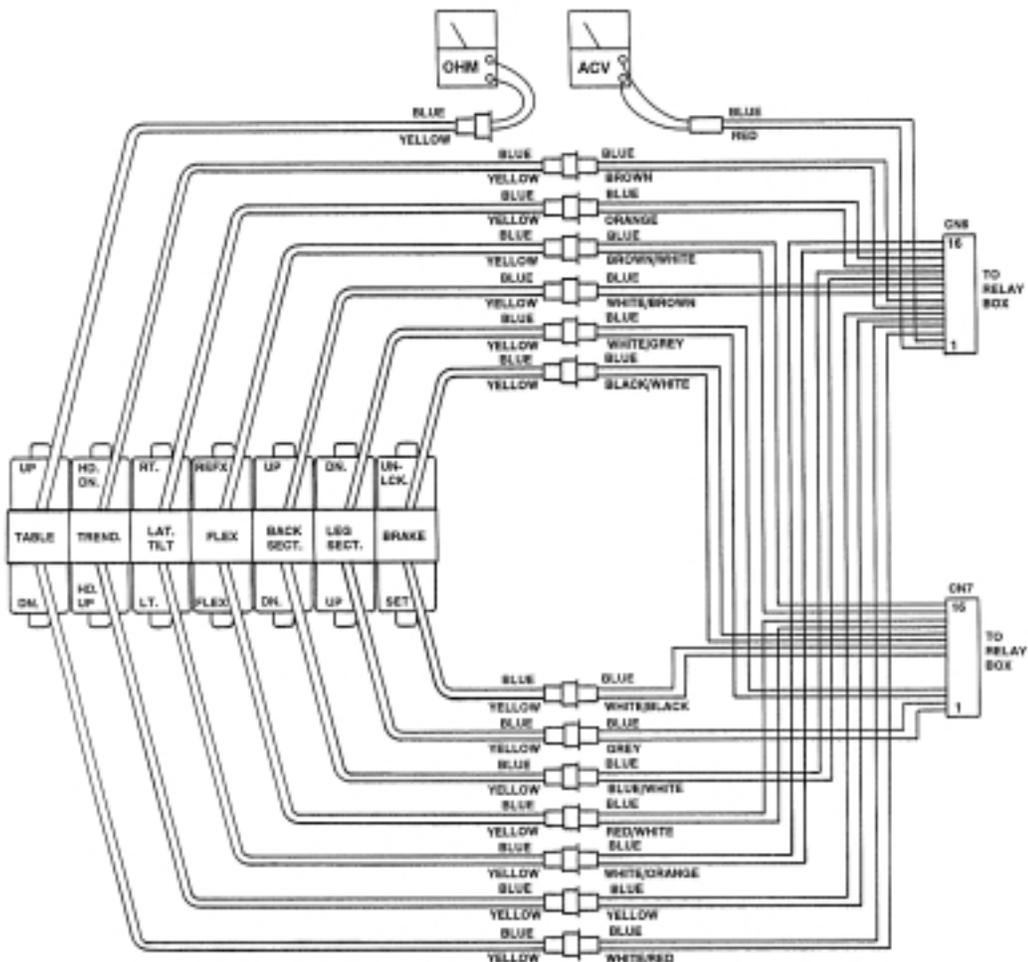

Figure 7-24. Solenoid Test
2. Disconnect the 2 pin connector from the solenoid in question, all other connectors should be connected. See figure 7-24.
1. Measure the resistance between the two pin connector in question as shown in figure 7-24. Connector must be disconnected. Polarity of meter leads is not important.